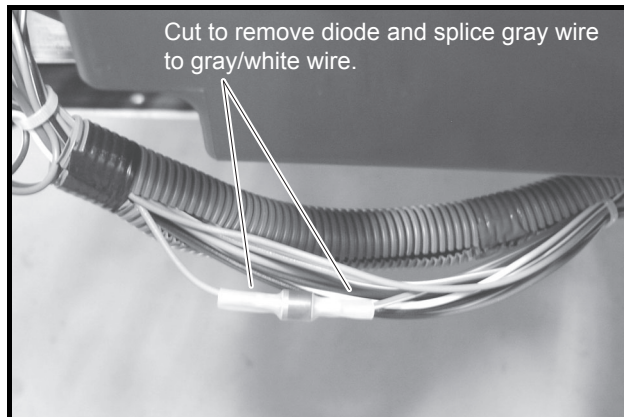

Figure 13-14 Remove Diode
2. Remove the diode from the gray/white and gray wires as indicated (**Figure 13-14, Page 13-16**).